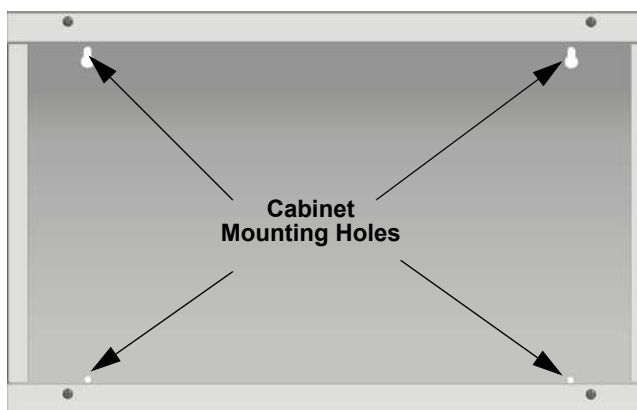

Figure 4.5 RBB or AB-55 Cabinet Mounting Holes
1. Mount the accessory cabinet. See Figure 4.5 for the four cabinet mounting holes.